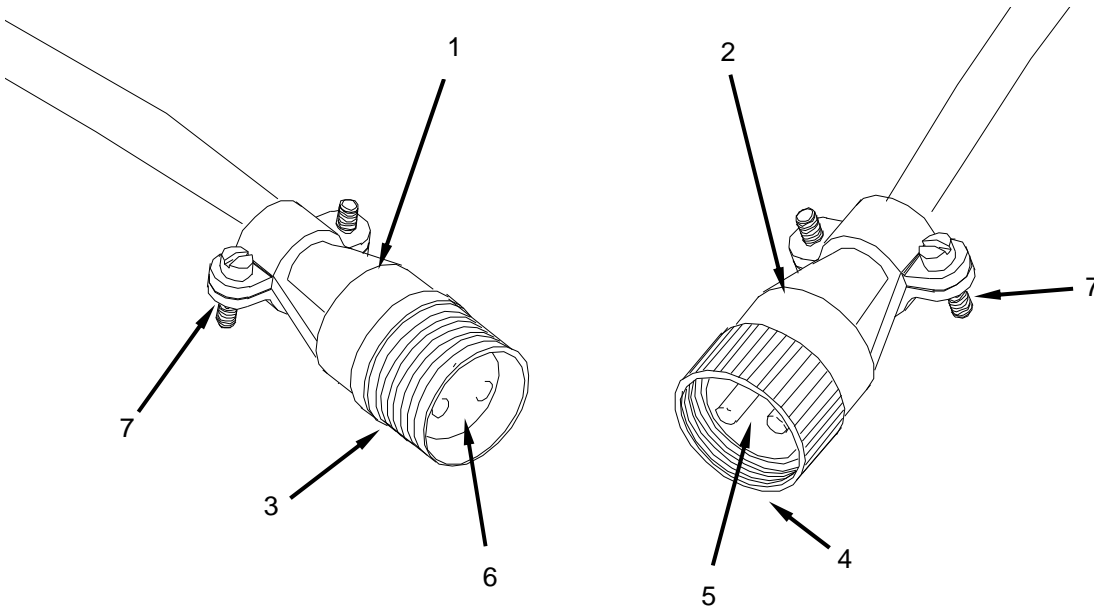

Figure 2. Inspect Male and Female Plugs.
2. Inspect the exterior of the female (Figure 2, Item 1) and male (Figure 2, Item 2) connectors for signs of physical damage.
3. Inspect the external threads of the female connectors (Figure 2, Item 3) to see if they are damaged.
4. Inspect the internal threads of the male connectors (Figure 2, Item 4) to see if they are damaged.
5. Check that the internal threaded cap of the male connector is free to rotate (Figure 2, Item 4).
6. Inspect the pins of the male connectors (Figure 2, Item 5) to ensure that they are secure and straight.
7. Inspect the recesses of the female connector (Figure 2, Item 6) to ensure they are clear of foreign material and are not crushed.
8. Inspect the two screws and locking clamps (Figure 2, Item 7) of both types of connectors for correct installation and security.